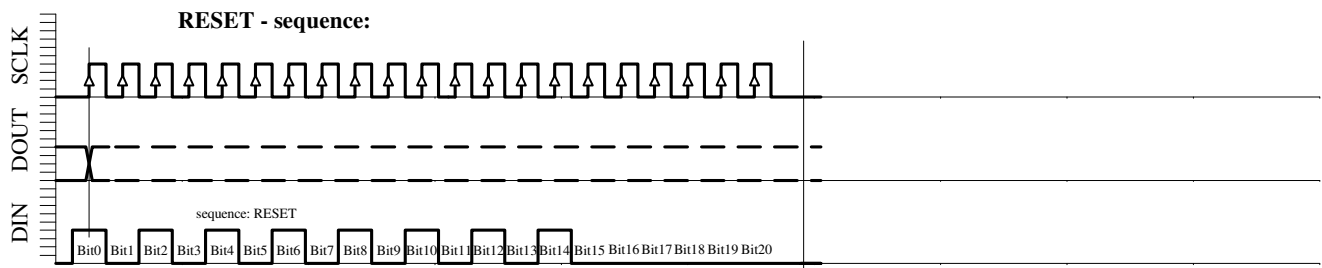

Fig. 6e: RESET sequence (21 bit)
- RESET sequence (Figure 6e)
The RESET sequence is special as the module in any state recognizes its unique pattern. By consequence, it can be used to restart if synchronization between the microcontroller and the MS5534C has been lost. This sequence is 21-bit long. The DOUT signal might change during that sequence (see Fig. 6e). It is recommended to send the RESET sequence before each CONVERSION sequence to avoid hanging up the protocol permanently in case of electrical interference.